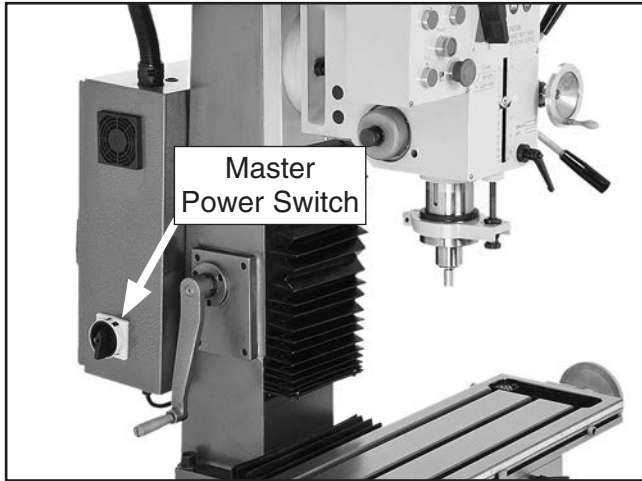

Figure 19. Location of master power switch.
7. Rotate master power switch (see **Figure 19**) all the way clockwise to enable power to machine.